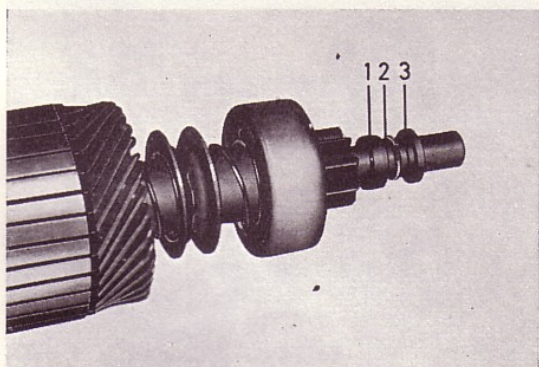

**Fig. 43. Removing the pinion and rotor**
5. Lift out the rotor with pinion from the pinion housing, see Fig. 43. This can be done after the pivot screw for the solenoid engaging fork has been removed.